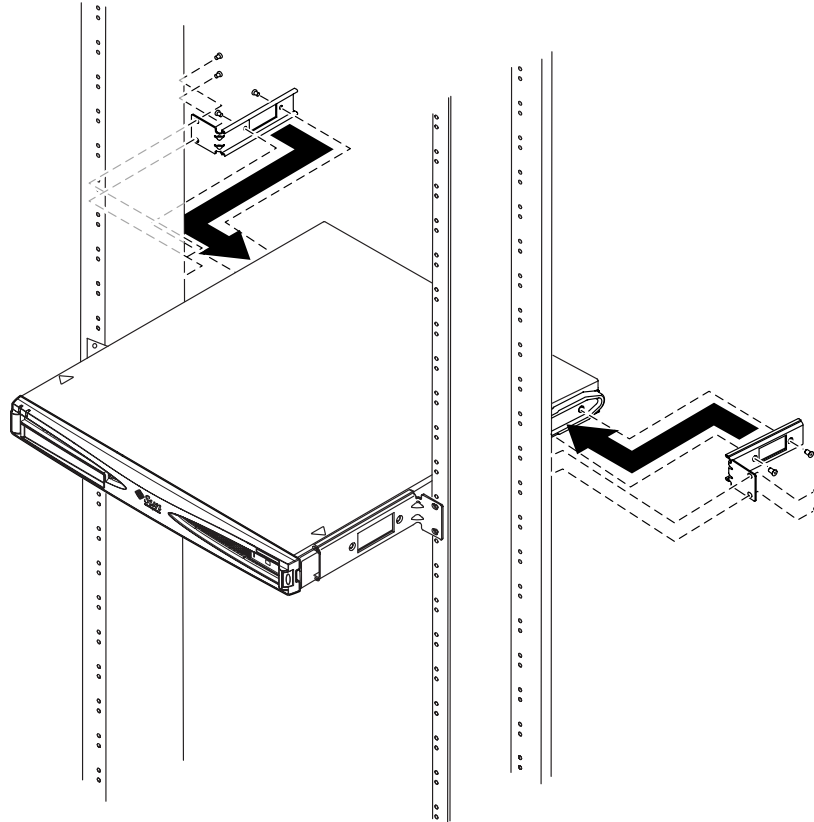

FIGURE 5-12 The Server Installed in a Two-Post Rack
5. Fit the two rear fixed brackets to the two tapped holes at the rear of the server on each side, using the Phillips-head countersunk screws provided (see FIGURE 5-12).